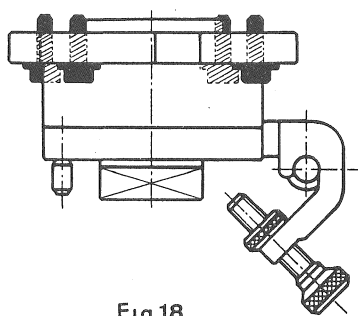

Fig 18
12.12 ATTACHMENT OF THE CHUCK (fig. 18)